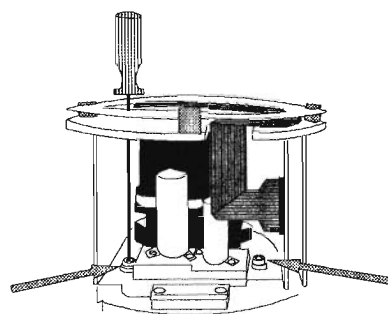

Fig 2 : The nuts can be reached via the top of the camera
- rotate the camera to -90° , switch the fluoroscopy on and off (the image will be stored and displayed), mark the centre of the phantom on the monitor (1)
- rotate the camera to $+90^\circ$ (this means 180° cw with the rotation-marker on the monitor), mark the centre again (2)
- draw a line between the two points on the monitor and mark the middle of the two points (3)
- the image will move diagonally on the monitor when turning one of the two nuts see Fig 2
- adjust the camera (4) to the marked middle (3) with an hexagonal wrench (use fluoroscopy)
Between WK1 and the flex, at the top of the camera, is enough space to reach the screws with a hexagonal wrench (no. 3) see Fig.2.